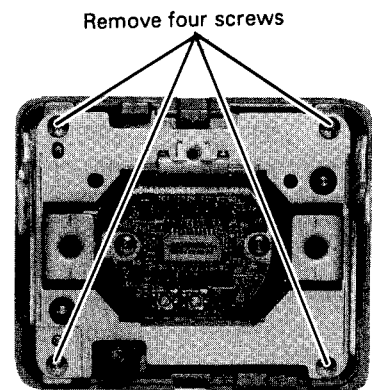

Fig. 3-3
- Referring to Fig. 3-3, remove four screws that secure the Front Chassis and remove the Head Optical Ass'y.